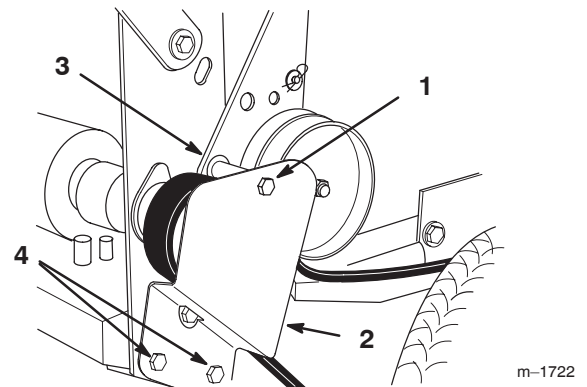

Figure 39
2. Remove the top bolt securing idler support and idler bracket to the rear frame (Fig. 39).
3. Loosen the bottom 2 bolts enough to allow the belt to pass between the drive pulley and the idler support (Fig. 39).